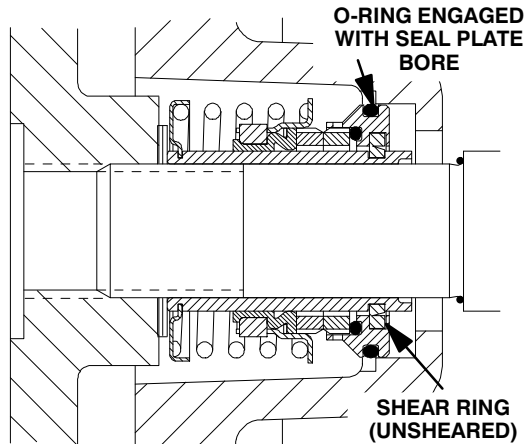

Figure 10. Seal Partially Installed
set of impeller shims (2) provided with the seal, and screw the impeller onto the shaft until it is seated against the seal (see Figure 10).